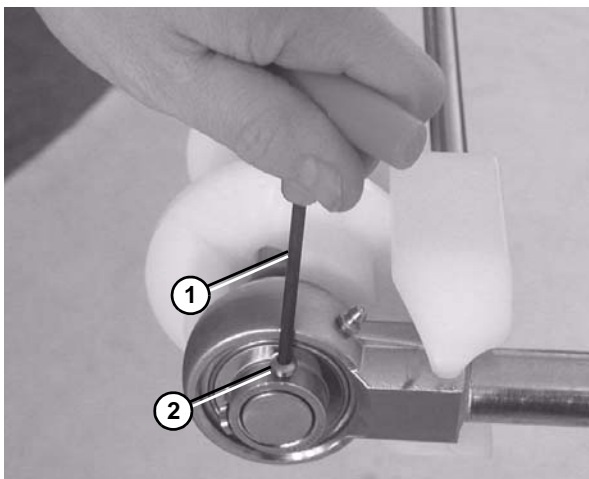

Figure 68
5. Use a hex wrench (**Figure 68, item 1**) to tighten the bearing shaft fasteners (**Figure 68, item 2**) to 54 in•lbs. Check after 24 hours of conveyor use.